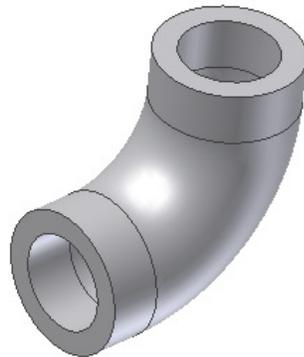

Figure 8-145 Model after creating the shell feature
- b. Create the inner cavity using the **Shell** tool, refer to Figure 8-145.
3. Enter **16** in the **Thickness** edit box and choose the **OK** button. The model after creating the shell feature is shown in Figure 8-145.